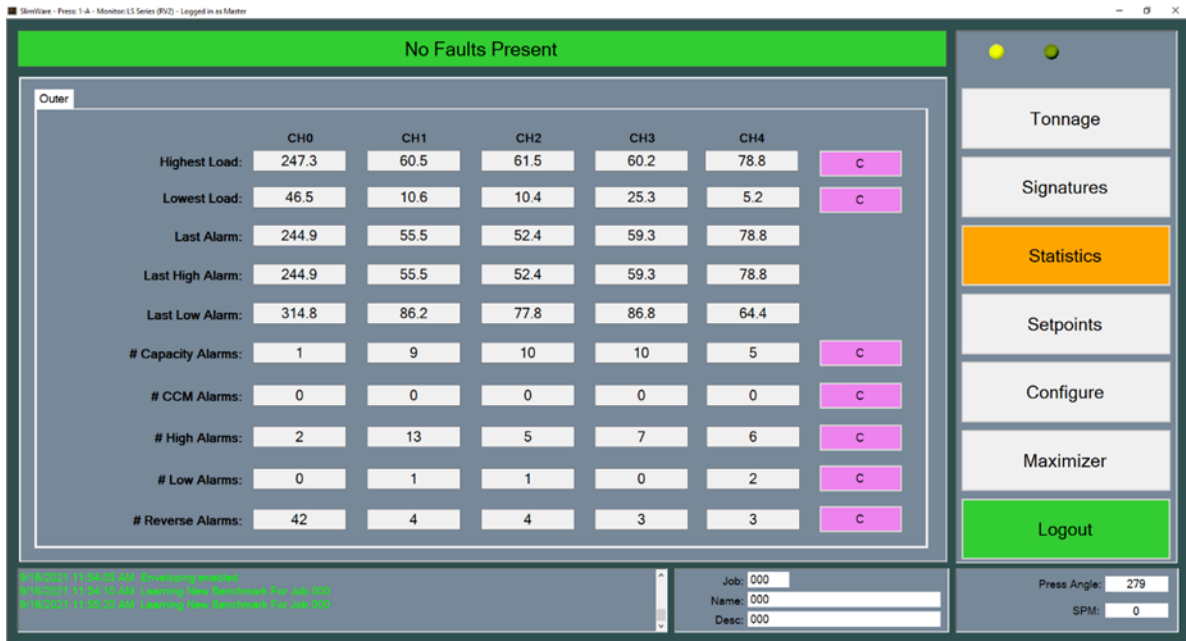

Figure 2-7: Statistics Screen
Figure 2-7 shows a typical four (4) channel LS-ZT unit's historical statistics. If the logged in user has "Change Setpoints" permission, these values can be cleared by pressing the "C" button for the corresponding alarm row. If not, these statistics are "read only."